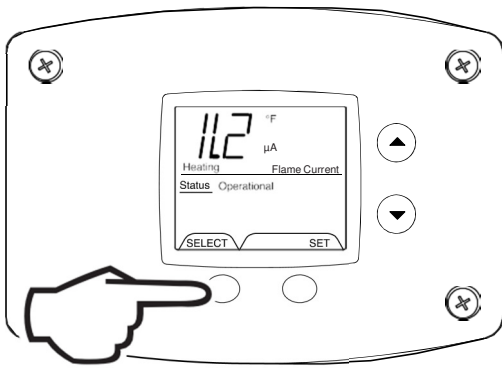

Fig. 36
3. Flame Current of Pilot Flame Sensor (Displays only in the Heating Cycle) (Fig. 36).